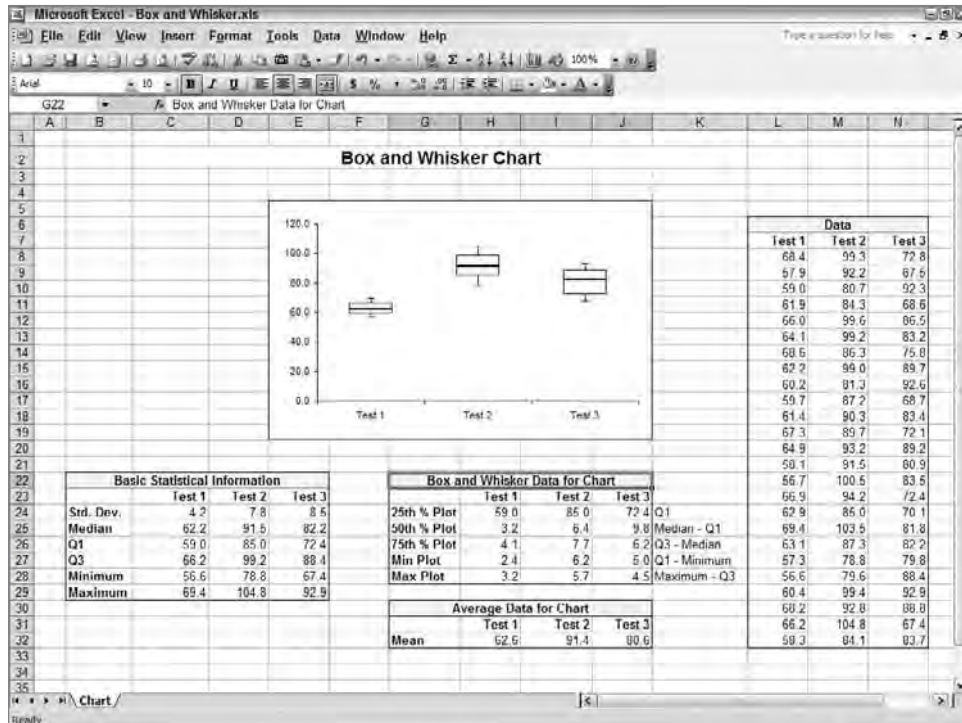

Figure 24.5: The finished box-and-whisker plot, before adding average markers.
10. Make the lower segment invisible. Right-click on the lowest segment and choose Format Data Series. Format the lowest segment with no border and no color so that it is invisible. Your chart should now look like the box-and-whisker plot in Figure 24.5.
5. Format the line so that it is invisible, and the marker is visible with a marker shape, color, and size that works for you. Figure 24.5 shows a finished box-and-whisker plot, including 25th and 75th percentiles, median and average, and max and min.